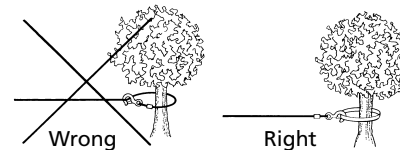

Figure 3
10. NEVER HOOK THE WIRE ROPE BACK ONTO ITSELF because you could damage the wire rope. Use a nylon strap (Figure 3).